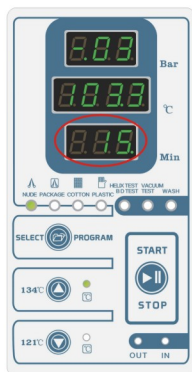

Fig.5.4-8-1
(12)**Drying stage:**when the pressure in chamber down to 0.0bar,the vacuum pump start working.time display window show “15” (Drying time of three times pre-vacuum program is 15Min)or “9” (Drying time of one times pre-vacuum program is 9Min).(Fig.5.4-8-1、 Fig.5.4-8-2)